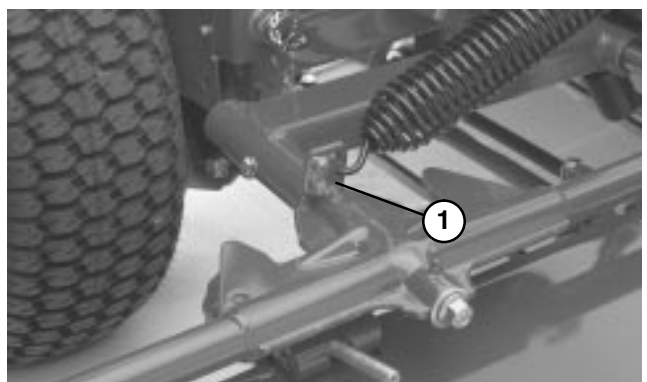

Figure 30
INSTALL COUNTERBALANCE SPRINGS (Figs. 30–33)
1. Hook one end of spring into second hole (from bottom) on cutting unit lift tab (Fig. 30).